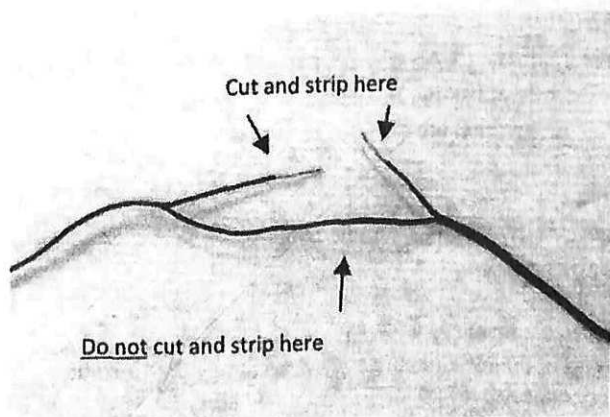

Figure 5.4.2. Another modified RCX cable. This one is well sustained for current measurements.
3. Alternative Step - It is possible to make the circuit diagram by modifying only one of the two parallel wires in the RCX cable (Figure 5.4.2. Using a sharp knife, carefully